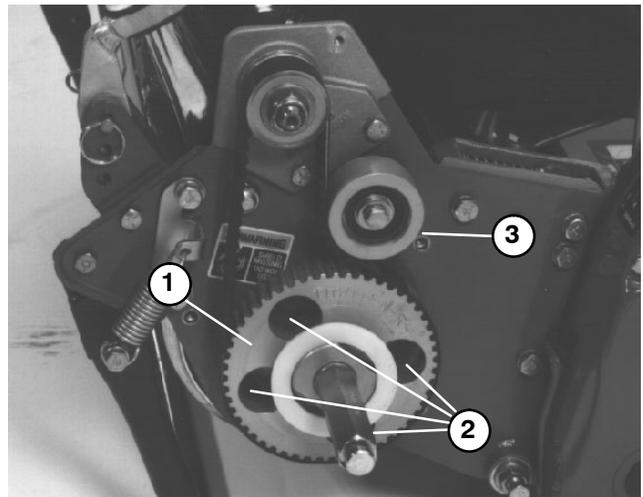

Figure 11
7. Rotate drive pulley until holes align with all four roller bearing flange screws (Fig. 11).
8. Loosen all four roller bearing screws and screw securing idler pulley. Raise or lower right side of drum assembly until the gap is reduced to less than 0.010 inch (0.254 mm). Torque drum bearing cap screws from **16 to 20 ft-lbs (2.2 to 2.8 kg-m)** (Fig. 11). Adjust belt tension and tighten idler pulley mounting screw (see Drive Belt in Adjustments section of Chapter 4 – Traction and Reel Drive System).